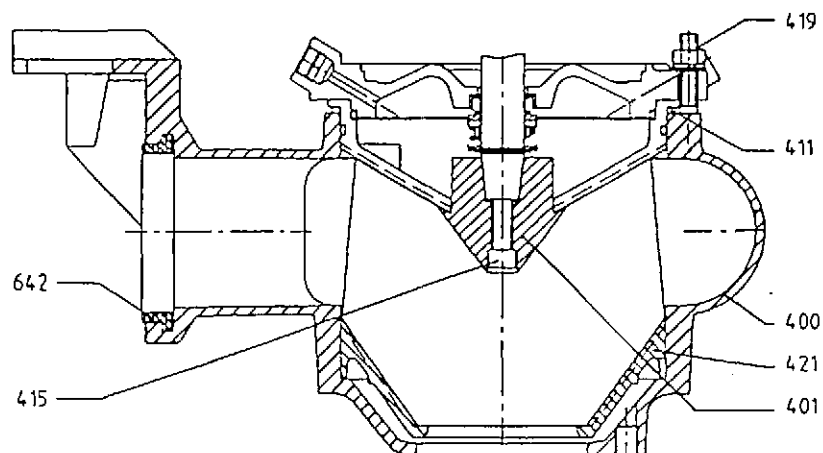

Fig. 4: C0CQ / D0DQ
3.3.3 REMOVAL OF LINER FOR TYPES C0CQ / D0DQ AND C080 / D100 NOT REGULABLE (Fig. 4 + 5)
3.4.2 ASSEMBLY OF LINER FOR TYPES C0CQ / D0DQ AND C080 / D100 NOT REGULABLE (Fig. 4 and 5)